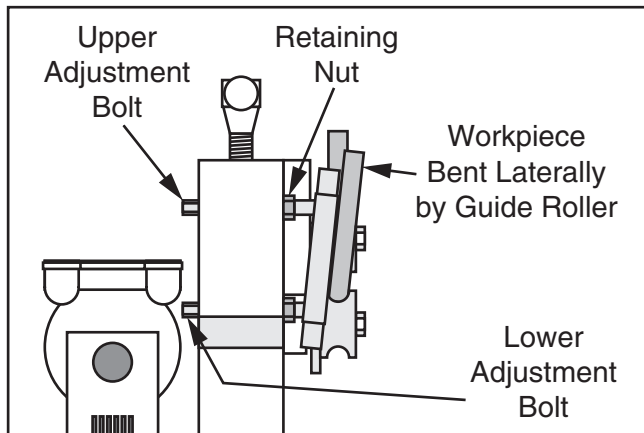

Figure 23. Location of compound bending components (side view).
2. Loosen upper guide retaining nut on outgoing side of headstock (see **Figure 23**).
3. Rotate upper guide adjustment bolt to push guide roller against workpiece (see **Figure 23**).
Note: Due to differences in workpiece materials and achievable shapes, you will likely need to experiment with a combination of adjustments to get the results you want. This includes rotating the lower adjustment bolt (see **Figure 23**).
2. Adjust guide roller on outgoing side of headstock to introduce a slight twist in your workpiece (see **Figure 23** and **Steps 2–4** of **Rolling Compound Arc**).